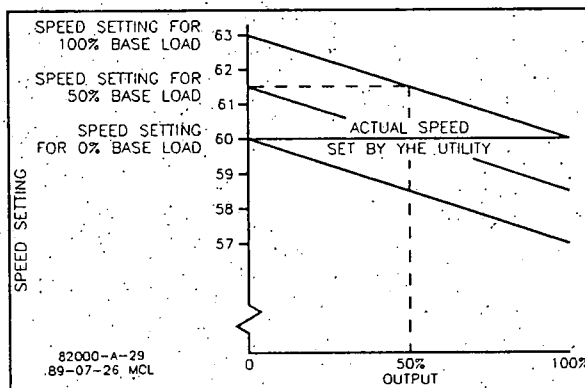

Figure 4-3. Droop Base Load with 5% Droop.
* If only 50 percent loading is possible, 58.5 Hz would indicate 5 percent droop. See Figure 4-3.